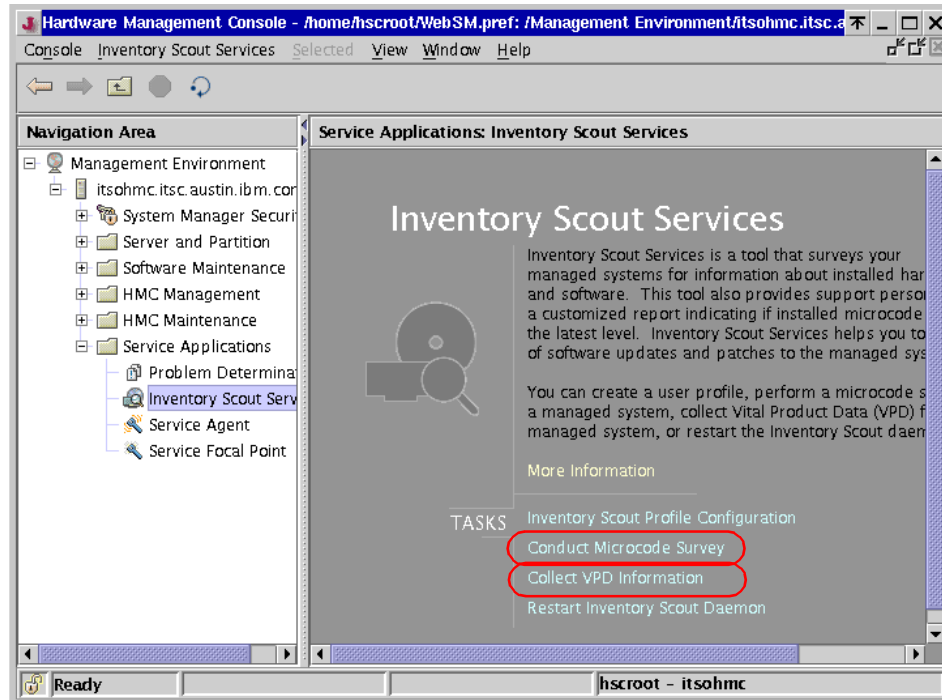

Figure 5-26 Inventory Scout Services
You can perform these operations by selecting the following two tasks, as shown in Figure 5-26:
3. In the Contents area, click **Inventory Scout Profile Configuration**, shown in Figure 5-26. The Inventory Scout Configuration Assistant window will open.